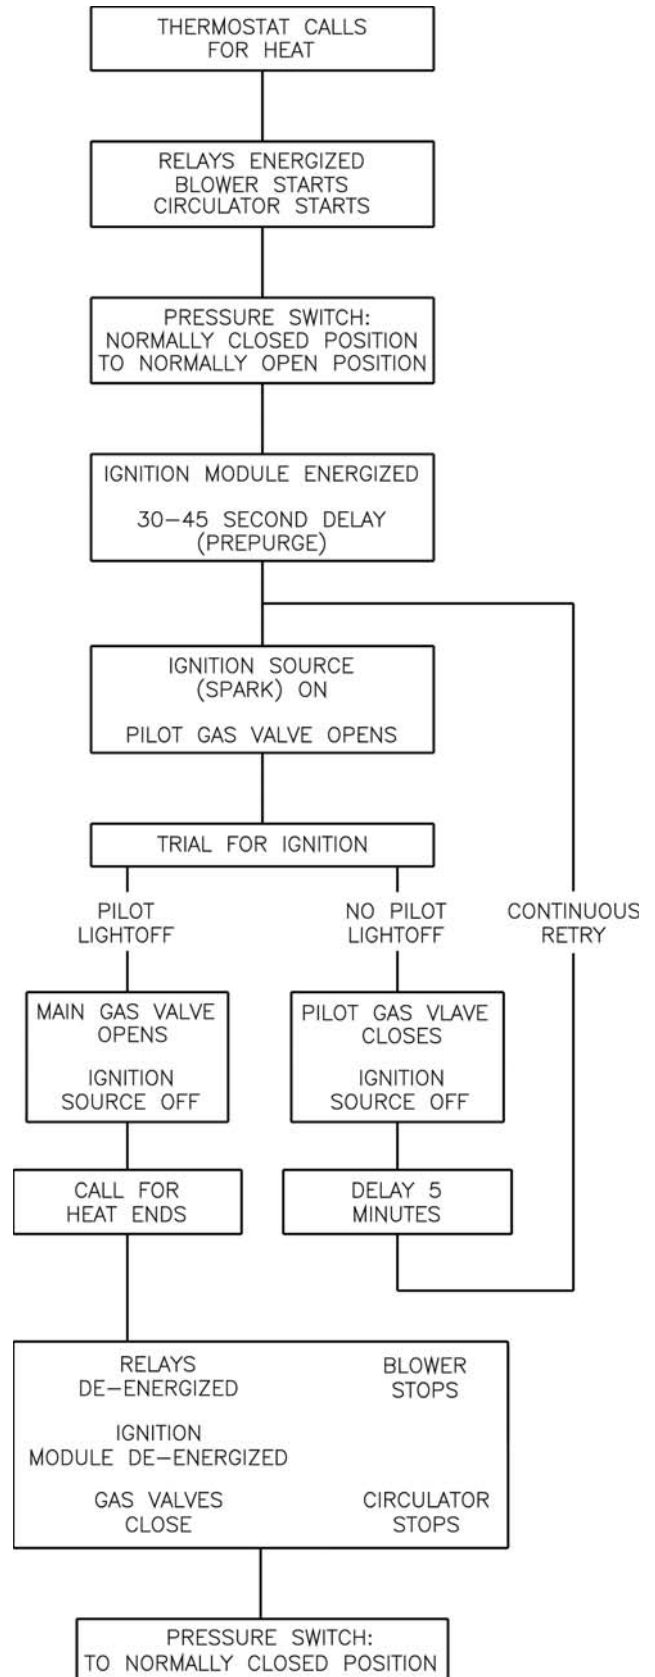

Figure 21: Sequence of Operation
E. Sequence of Operation. See Figure 21. If boiler fails to operate properly, see Troubleshooting Tree on pages 26-27.